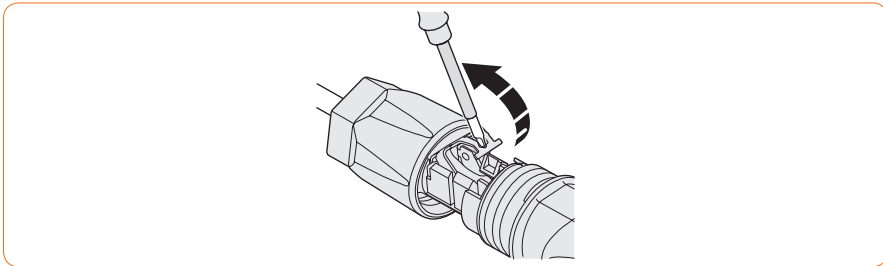

Figure 4-23
③ Use a flathead screwdriver to open the clamping bracket in the connector, as shown in Figure 4-23: